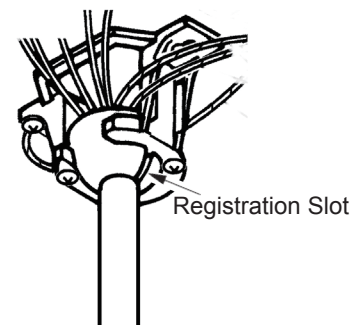

Figure 5.7
Step 7 . Place the Downrod Ball into the Hanger Bracket socket. Align the Downrod Ball Registration Slot with the ridge inside the Bracket socket to secure the ball. (Fig. 5.7)